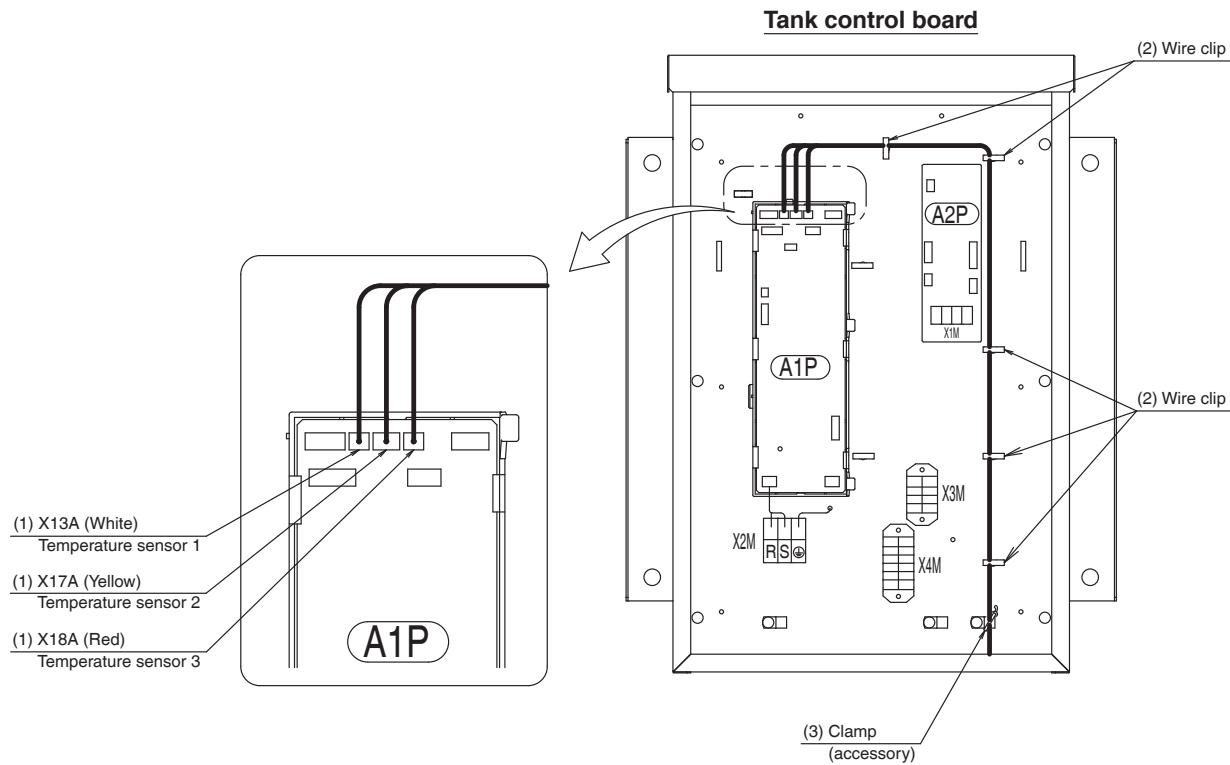

Fig. 6
(2) Pass the relay wire harness through the wire clip.
(3) For the relay wire harness, secure the clamp (accessory) as shown in Fig. 6 so that no external force is applied to the connector.